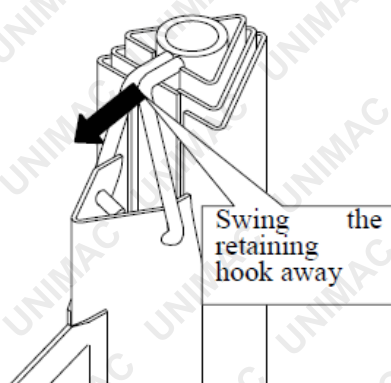

Fig. 8
- When the winch is extended, release the brake arm and turn the retaining hook away so that it no longer secures the telescoping sections inside the frame housing, as shown in Figure 8.